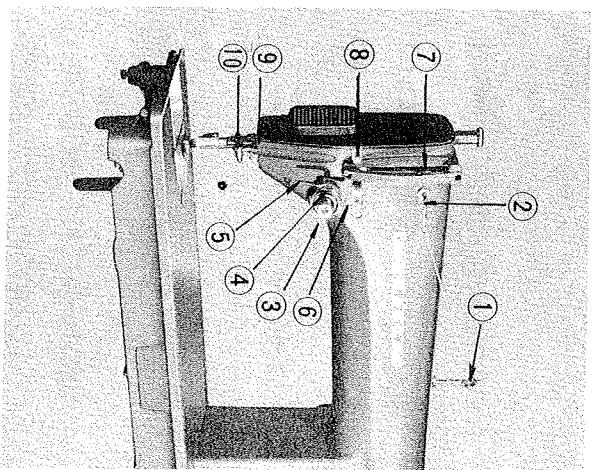

Fig. 3
- 1) Turn the handwheel toward you until the needle (10) reaches its highest point and take-up lever (7) is near the end of its upward travel, as shown in Fig. 3.
- 2) Lead the thread through the hole (1) of the spool pin and the three holes of the arm thread guide (2) starting from the top hole.
- 3) Run the thread downward between and around the tension discs (3) from right to left.
- 4) Run the thread upward into the crook of the thread take-up spring (4) and down again under the slack thread regulator (5) from right to left.
- 5) Lead the thread up through the guard (6).
- 6) Pull the thread up, running its end through the eye of the take-up lever (7) from right to left.
- 7) Now run the thread downward through the thread guides (8) & (9).
- 8) Lead the thread through the needle bar thread guide (10).